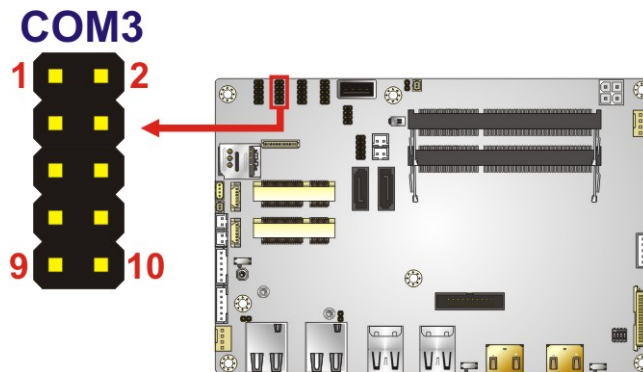

Figure 3-20: RS-232/422/485 Connector Location
- CN Location:** See **Figure 3-20**